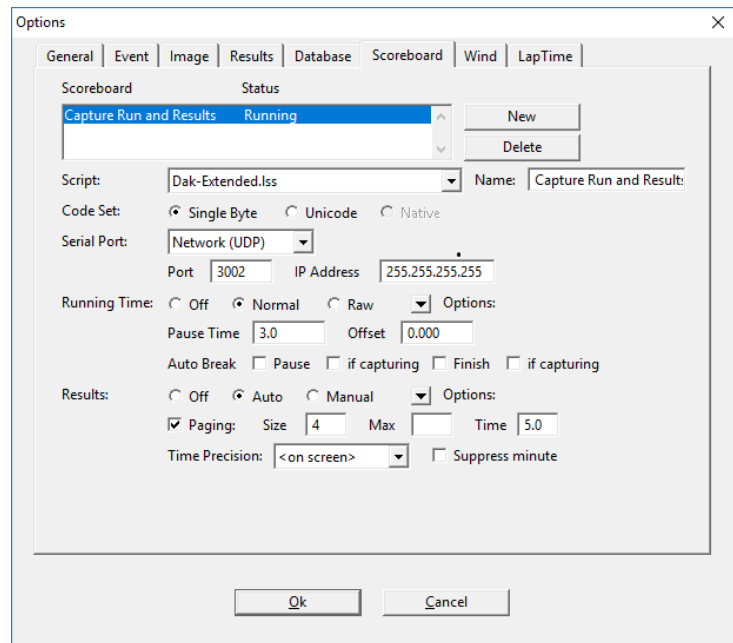

Figure 39: Scoreboard Options for Galaxy Via UDP/IP
4. Set up the Scoreboard options as follows (refer also to **Figure 39**):